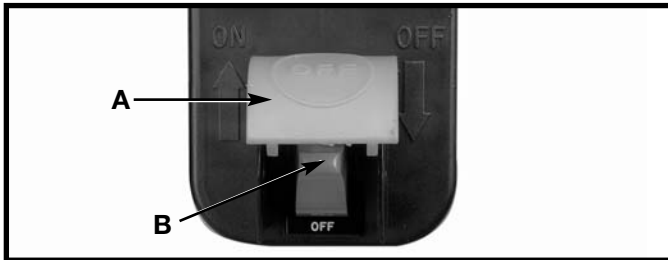

Fig. 37
1. The on/off switch is located underneath the switch shield (A) Fig. 37. To turn the saw "ON", move switch trigger (B) to the up position.